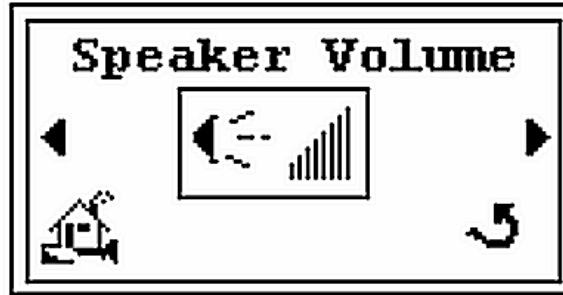

Figure 2-4 Speaker Volume Setup Screen
and press **Enter** and the *Speaker Volume* setup screen appears (Figure 2-4).
4. Press **Enter** and Figure 2-4 reappears.